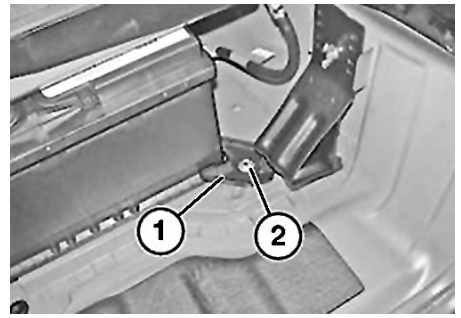

Fig. 4 Battery removal
12. Remove battery bracket bolt (2), **Fig. 4**.
13. Remove battery bracket (1), **Fig. 4**.
3. Install battery bracket (1), **Fig. 4**.
4. Install battery bracket hold down bolt (2) and **torque** to 92 inch lbs., **Fig. 4**.